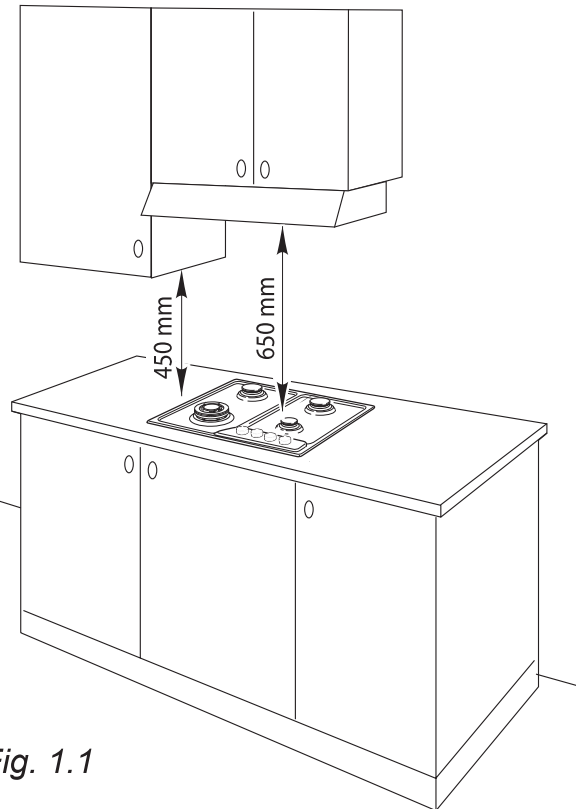

Fig. 1.1
- there must be a distance of at least 650 mm between the hob and any wall cupboard or extractor hood positioned immediately above (see fig. 1.1);